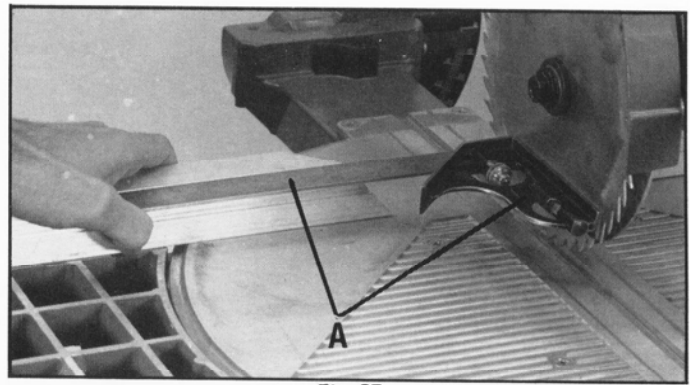

Fig. 37
3. Place a square (A) against the top portion of the fence with the other end of the square against the saw blade, as shown in Fig. 37, and check to see if the blade is at 90 degrees to the fence.